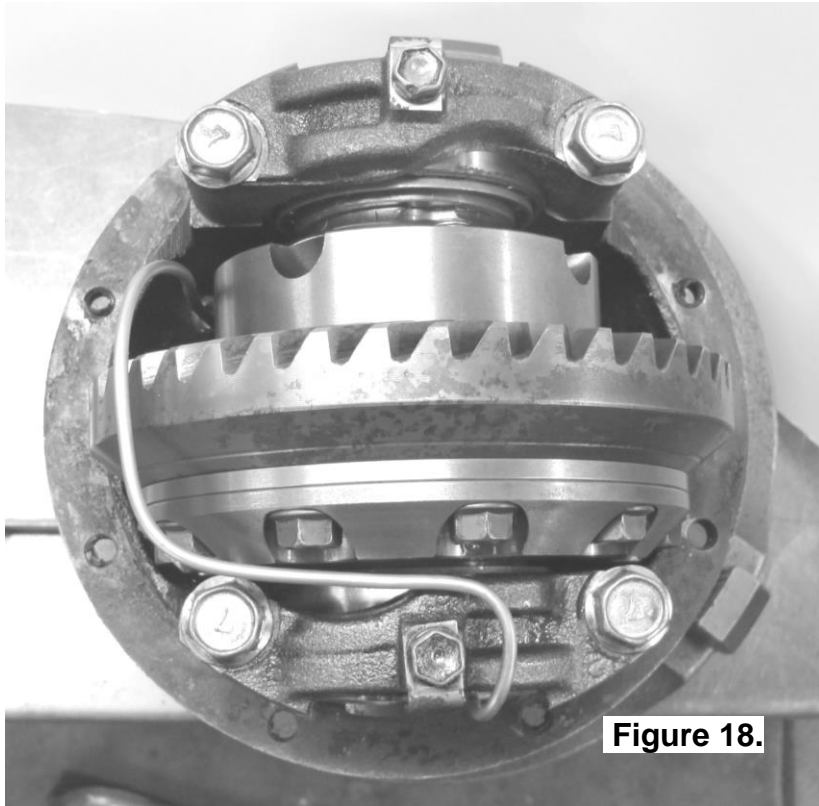

Figure 18.
- ☐ With the seal housing tube now firmly secured into the bulkhead fitting, bend the tube so that it closely follows the profile of the differential. (Figs.18., 19. & 20.)